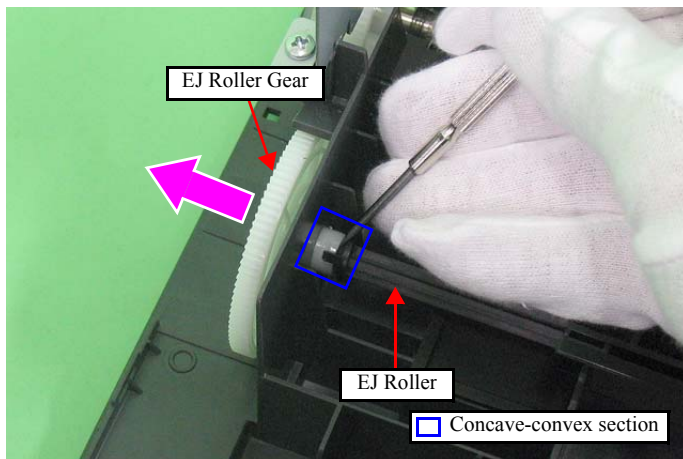

Figure 4-42. Removing the EJ Roller (1)
- When installing the EJ Roller Gear, be sure to align the concave section of the EJ Roller Gear with the convex section of the EJ Roller, then secure them. (See Fig.4-42.)